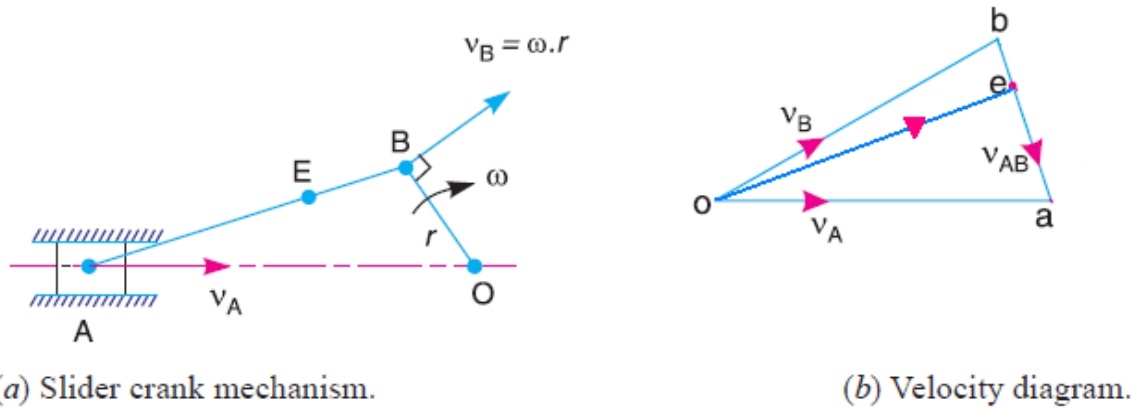

Fig. 1
The slider A , in Fig. 1(a), is attached to the connecting rod AB . v_B is known in magnitude and direction. The slider reciprocates along the line of stroke AO .
1. From any point o , draw vector ob parallel to the direction of v_B (or perpendicular to OB) such that $ob = v_B = \omega.r$, to some suitable scale, as shown in Fig. 1(b).
4. To find velocity of point E $\frac{be}{BE} = \frac{ba}{BA}$ and then find point e in Fig. 1(b) and then v_E .